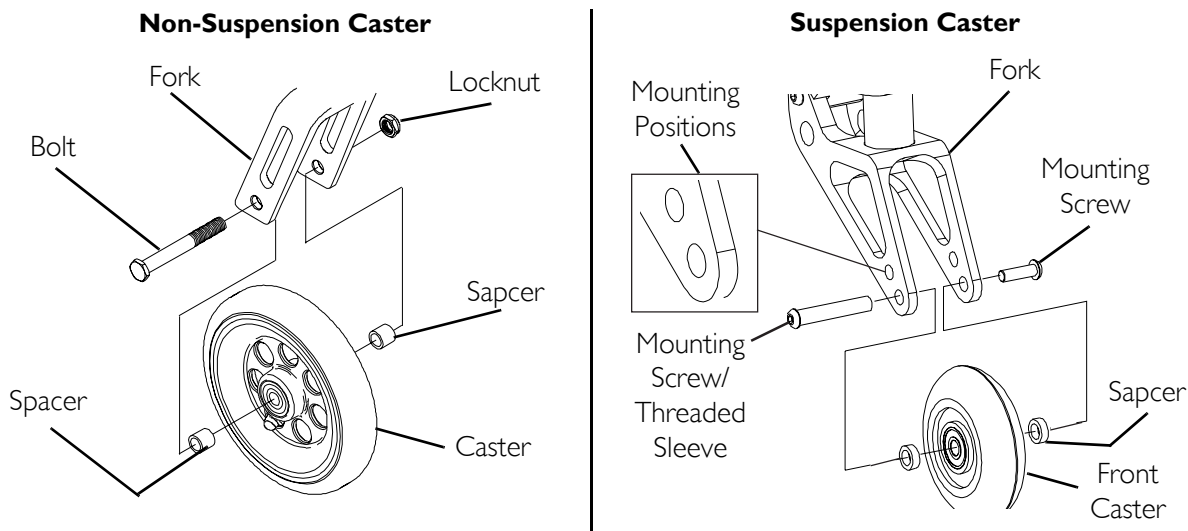

FIGURE 6.19 Replacing/Adjusting Casters
NOTE: For this procedure, refer to FIGURE 6.19.
- i. Using two (2) allen wrenches, turn in opposite directions and remove one (1) mounting screw from the fork.
- ii. Remove the mounting screw/threaded sleeve assembly that secures the front caster and two (2) spacers to the fork.
3. Perform one (1) of the following:
- ii. Line up the front caster and two (2) spacers with the mounting hole in the fork determined in STEP B-1.
- iii. Reinstall the mounting screw/threaded sleeve assembly through the fork, front caster and two (2) spacers. Refer to FIGURE 6.19 for hardware orientation.